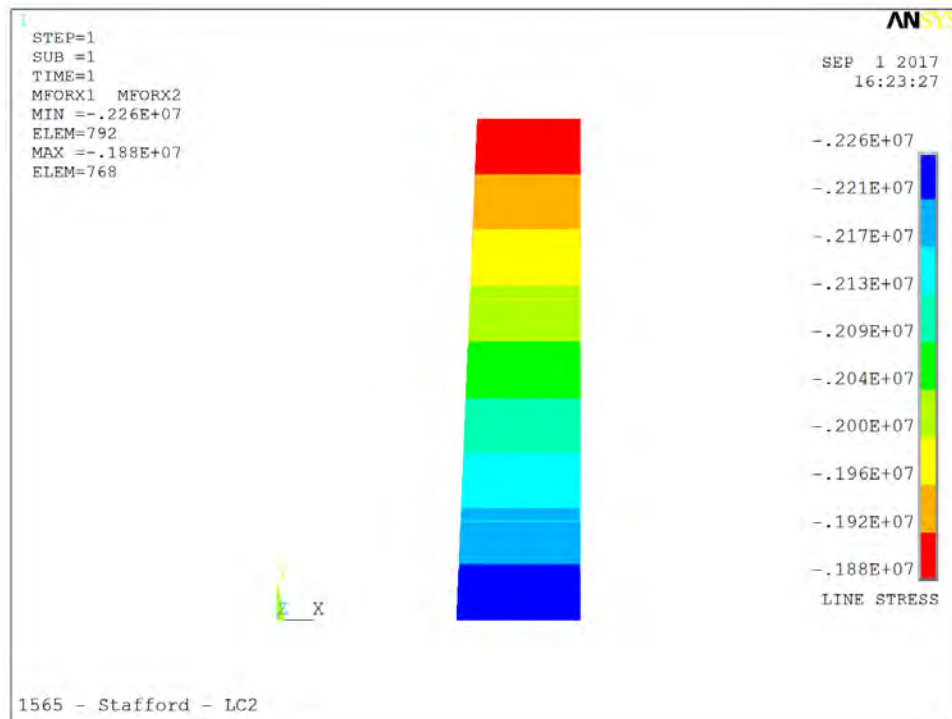

Fig. 2D
- **Fig. 2D - Wall axial force (lbs/360)**